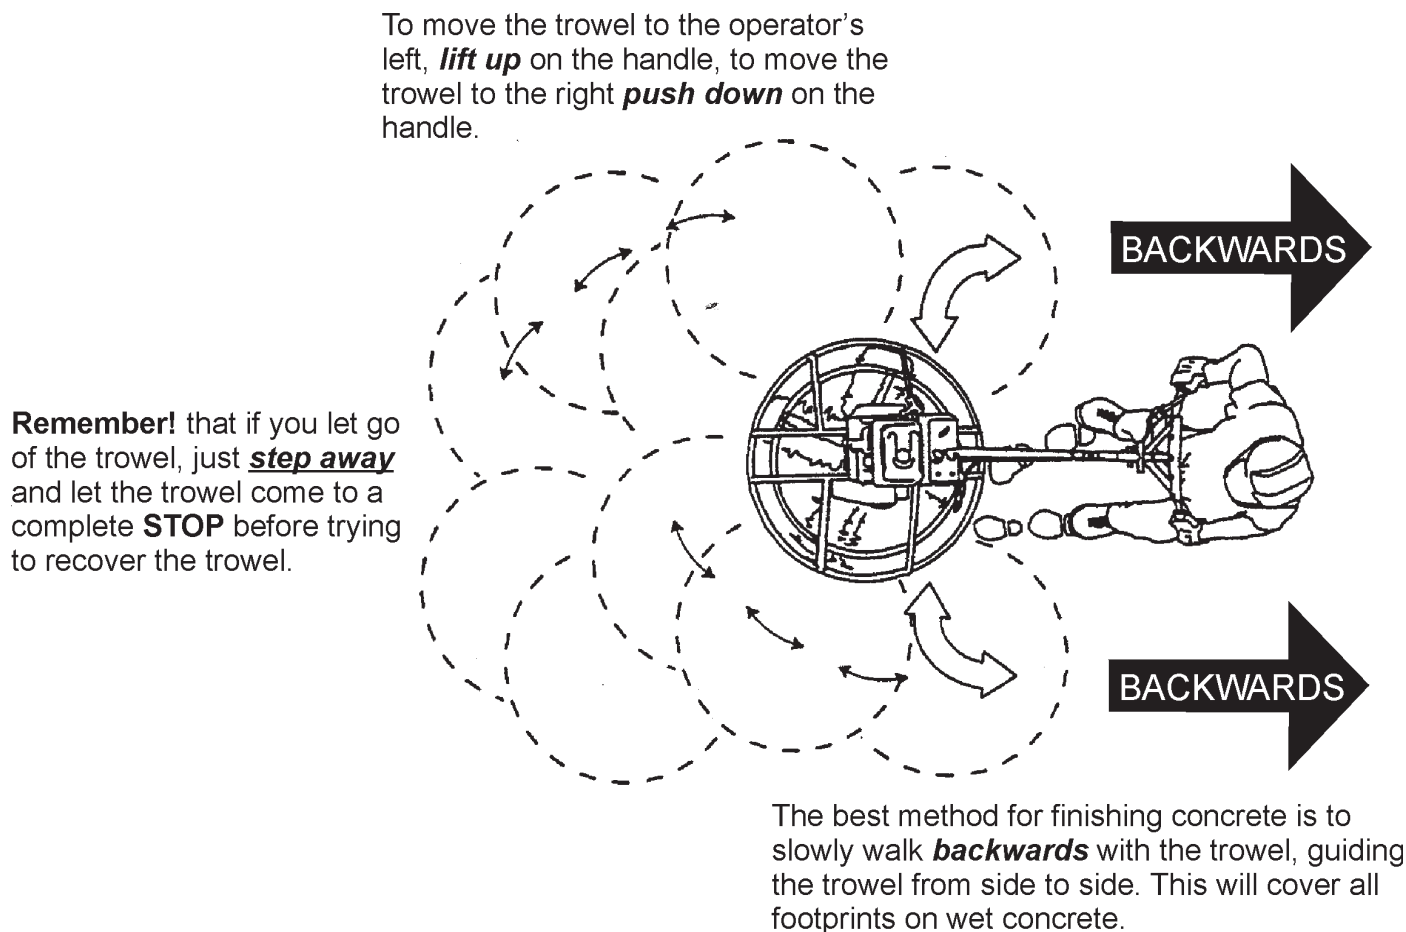

Figure 31. Maneuvering The Trowel
3. The best method for finishing concrete is to slowly walk backwards (Figure 31) with the trowel, guiding the trowel from side to side. This will cover all footprints on wet concrete.
(Figure 31) below illustrates a typical walk-behind trowel application. Practice maneuvering the trowel. The trick is to let the trowel do the work.